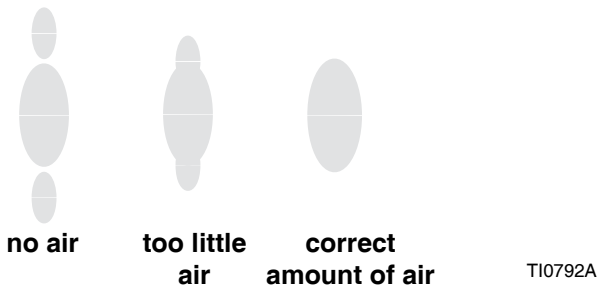

FIG. 8. Spray Pattern Problems
2. See FIG. 8. Set atomizing air pressure at about 5 psi (0.35 bar, 35 kPa) when triggered. Check spray pattern, then slowly increase air pressure until tails are completely atomized and pulled into spray pattern. Do not exceed 100 psi (0.7 MPa, 7 bar) air pressure to gun.